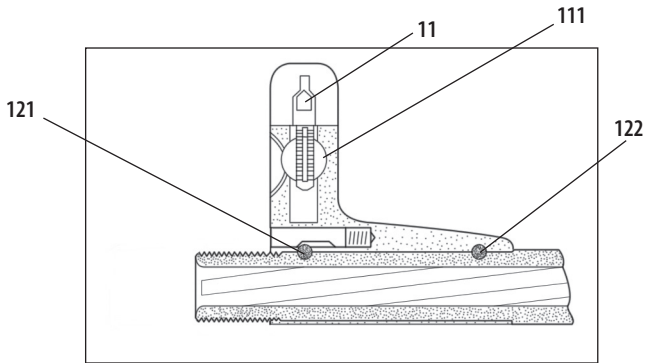

Fig. 4 *Front sight base /sectional view/*
The external cylindrical surface of the barrel is stepped four times. Near the muzzle, on the barrel, is pressed front sight base 12, which is locked by two pins 121 and 122 in order to prevent turning (Fig. 4). In front of the front sight base is muzzle nut 19 screwed on to the threaded muzzle.
**Front sight** 11 (Fig. 4) together with rear sight 21 form the sights of the rifle and are used for aiming of the rifle. The front sight is of a cylindrical shape, provided with a thread in its bottom part, longitudinally cut and opened. It is screwed into the front sight pin 111 and the front sight thread part enables it to be adjusted for height. After screwing the front sight into the front-sight pin, the opened part springs, thus preventing the front sight from turning spontaneously.